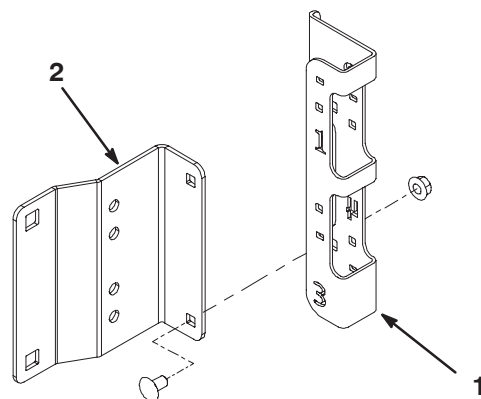

Figure 2
9. Loosely mount the new switch mount to the switch bracket with the (2) carriage bolts and nuts previously removed (Fig. 2).